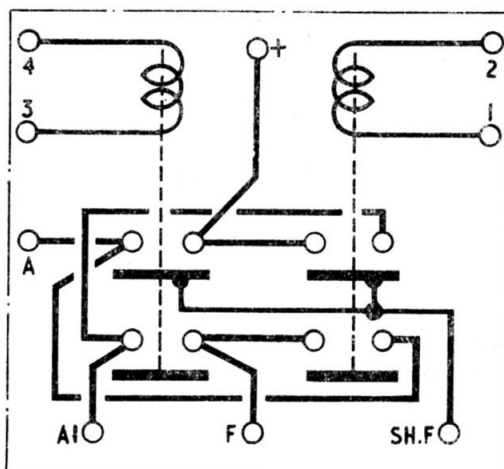

Fig. 3. Circuit diagram
5. Eight fixed contacts, four at each end of the box, are supported on pillars attached to the base. Connections to the terminals are made with metal strips, soldered to the fixed contacts and housed in a recess formed on the underside of the box. Connections to the solenoids are through terminals at the sides of the case. A circuit diagram is shown in fig. 3.